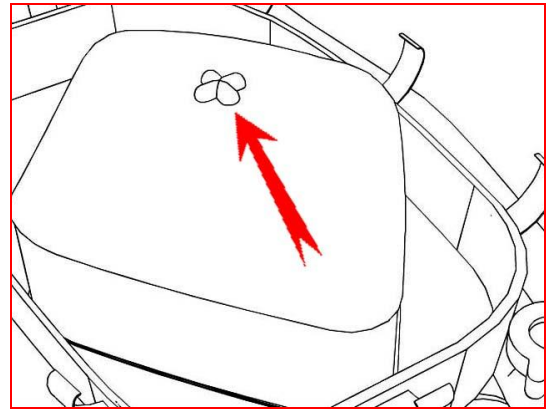

Figure 3
3. Remove the plastic nut, air filter cover and filter. (see figure 3)